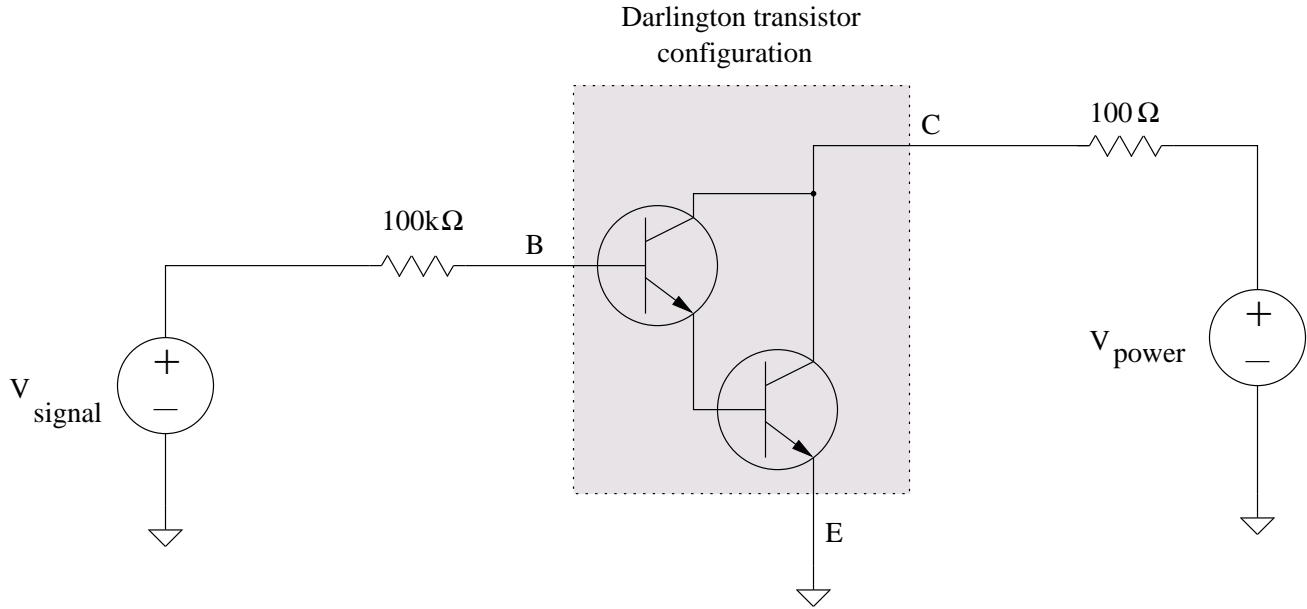

Figure 18: NPN Darlington transistor circuit
2. It is often necessary to step up the current gain of a transistor. That is, we need to further amplify the current in order to power some external device such as a heater or motor. One common solution is to force transistors to work in tandem in order to increase the overall gain of the system. Such an amplifier is called a *Darlington configuration*, which is in Figure 18. The following circuit schematic is a repeat of the previous circuit with a Darlington pair replacing the single bjt transistor.
- (a) Build the circuit shown in Figure 18. Use the two voltage sources on the power supplies for V_{signal} and V_{power} . Even though you use two individual transistors here, it is best to think of the entire dotted package as a single transistor with the usual three terminals.